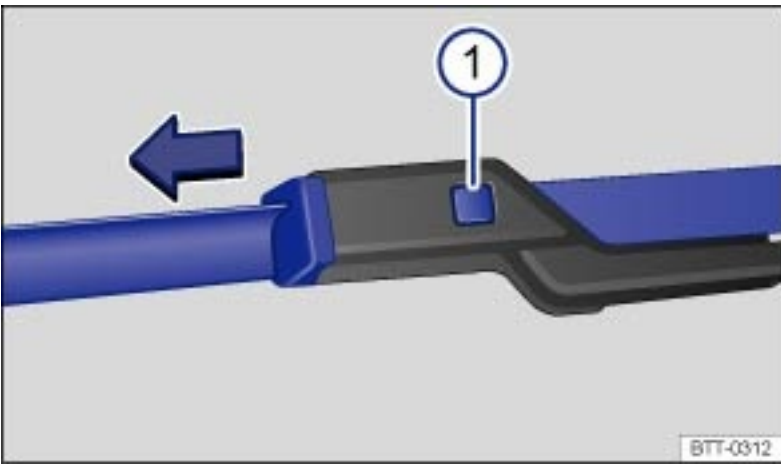

Fig. 196 Changing the windshield wiper blades.
- Press and hold the release button → Fig. 196 ① .